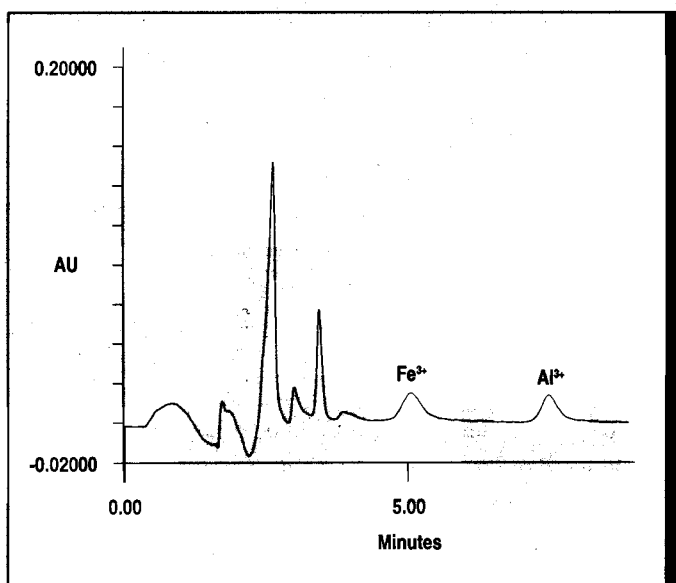

FIGURE 2. ANALYSIS OF RIVER WATER SLRS-1 (CANADIAN STANDARD REFERENCE MATERIAL) 12 ML CONCENTRATED
- The "injection" of the concentrated aluminum does not occur until 7.4 min into the analysis. For ease of operation, the data collection system can be started at 0.0 min, although meaningful data does not begin until 7.4 min. Alternatively, if an automated data collection system is used (e.g., the Dionex AI-450), data collection can begin at GPM time=7.4 min. The chromatogram shown in Figure 2 was run with data collection beginning at time=7.4 min. Below is the GPM program:
The detection limit of this method is 1 to 5 ppb of aluminum for a 10 to 20-ml sample. In general, the aluminum contamination level in the chelation concentration reagent (2.0 M ammonium acetate) will determine the detection limit of the method. A standard reference material (river water SLRS-1) with 23.5-ppb aluminum was analyzed using this method and accurately determined to within 1% of the known value (see Fig. 2).